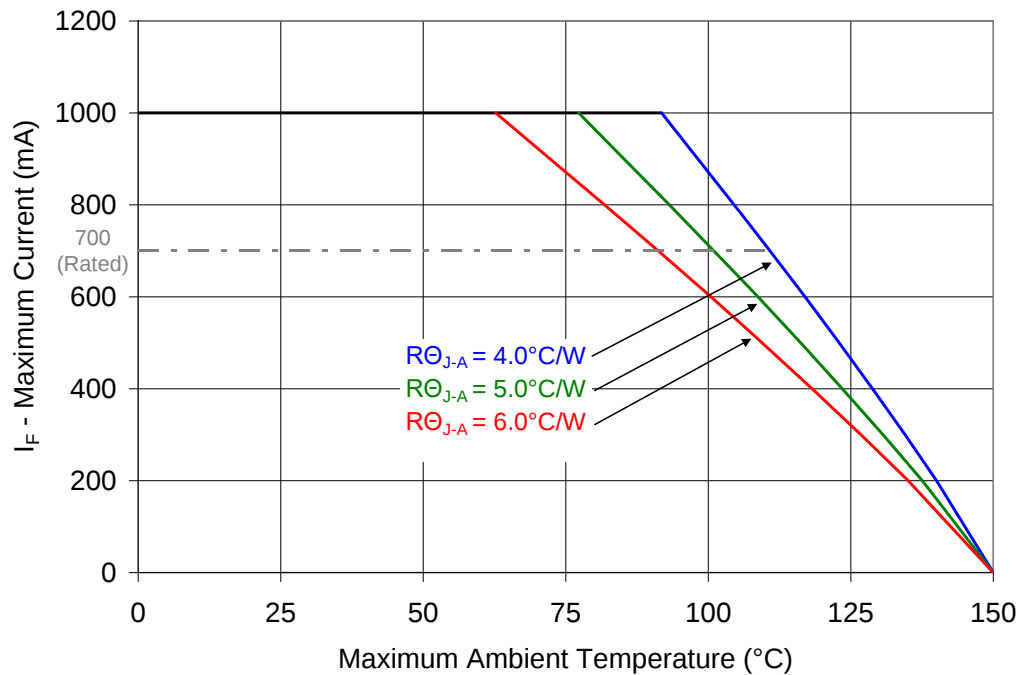

Figure 10: Maximum forward current vs. ambient temperature based on T_J(MAX) = 150°C.
- Maximum DC forward current is determined by the overall thermal resistance and ambient temperature. Follow the curves in Figure 10 for current derating.
Notes for Figure 10: